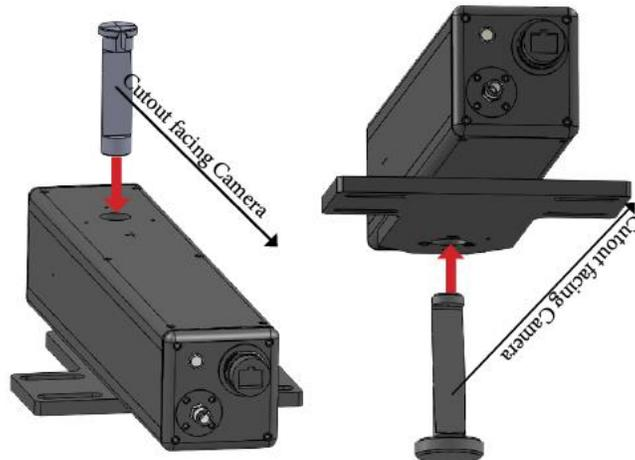

Figure 11: Alignment Tool Options
1. Determine which alignment tool to use. BeamWatch contains two alignment tool accessories; one is designed to be inserted from the top and the other from the bottom (Figure 11).